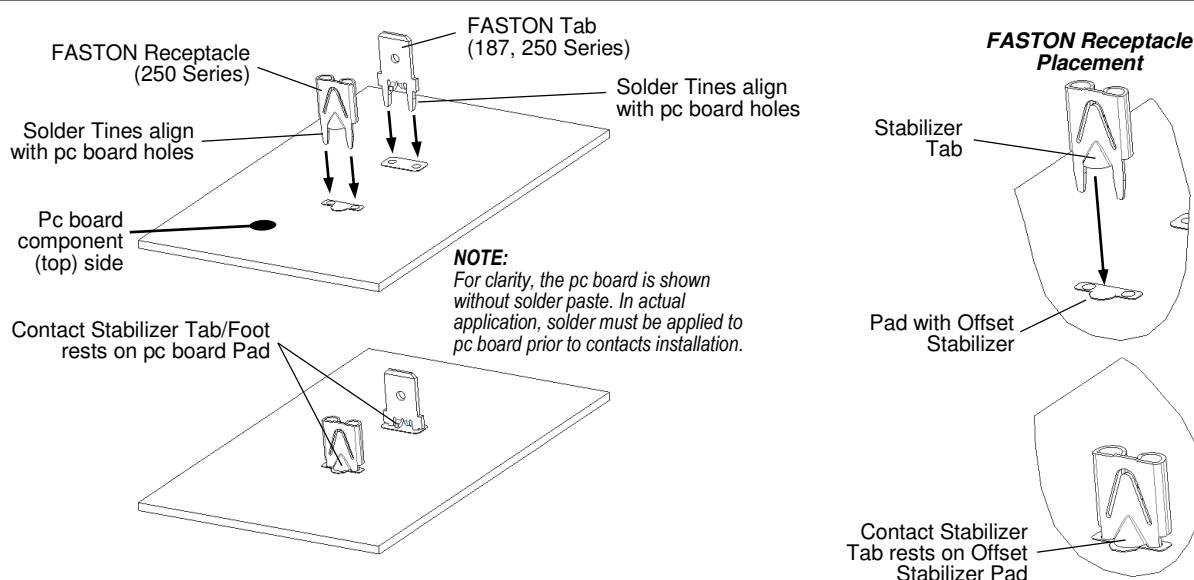

Figure 3
The contact installation is similar for both Tab and Receptacle contacts. However, the Receptacle contact has an orientation with respect to the pc board pad that must be observed. Contacts provided loose-piece can be placed on the pc board manually. Alternatively, contacts can be provided on a reel and placed with an automatic machine having a cut-off and gripper tool. The installation procedure for each contact is described below and is shown in Figure 3.
- b. Receptacle contacts have a preferred orientation with respect to the component-side solder pads that must be observed. The Receptacle Stabilizer Foot must align with the pc board pad "offset stabilizer" feature as shown in Figure 3.
*Receptacle Contact Stabilizer Foot must align with pc board Offset Stabilizer pad as specified in para. 3.7,2,b and shown in Figure 3. Failure to maintain the specified alignment results in contact damage during solder paste re-flow.*